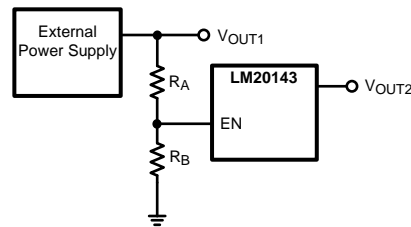

Figure 33. Sequencing LM20143 with Precision Enable
The precision enable (EN) and power good (PGOOD) pins of the LM20143 can be used to address many sequencing requirements. The turn-on of the LM20143 can be controlled with the precision enable pin by using two external resistors as shown in Figure 33 .